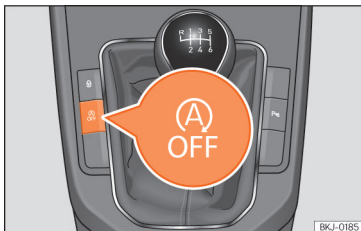

Fig. 135 Centre console: Start-stop system button.
- To manually switch on/off the Start-Stop system, press the  button **»» Fig. 135**.